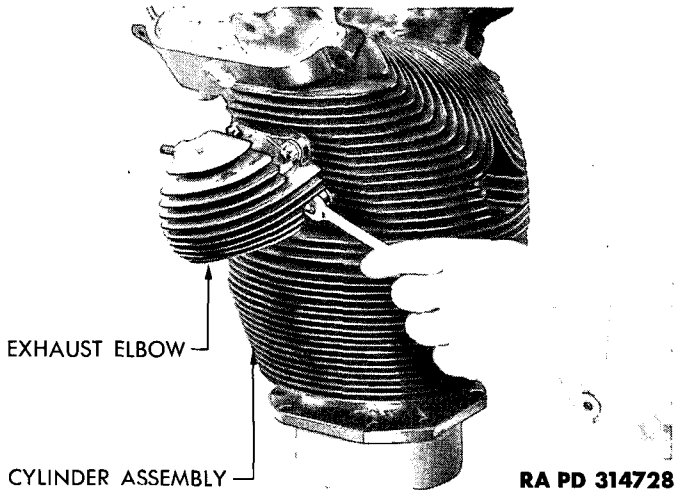

Figure 99 — Removing Exhaust Elbow
b. Remove Exhaust Elbows. Cut and remove safety wire from four nuts securing exhaust elbow to cylinder studs. Remove nuts and flat washers, and lift off exhaust elbow. Remove all exhaust elbows in same way (fig. 99).
(11) **EXHAUST ELBOWS**. Examine exhaust elbows for cracks, erosion, and condition of fins (fig. 99). Replace damaged elbows. Inspect parting surfaces for nicks, burrs, and warpage. Remove nicks and burrs from parting surfaces with fine stone and polish with crocus cloth. Replace elbow if parting surface is warped.
c. **Install Exhaust Elbows.** Position elbow on cylinder mounting flange studs, and install four washers and nuts. Tighten nuts securely, and secure with lock wire (fig. 99). Secure the two top nuts together and the two bottom nuts together. Install exhaust elbows on remaining cylinders. Place each cylinder assembly on clean bench, and cover to protect it from dust until installed in engine.